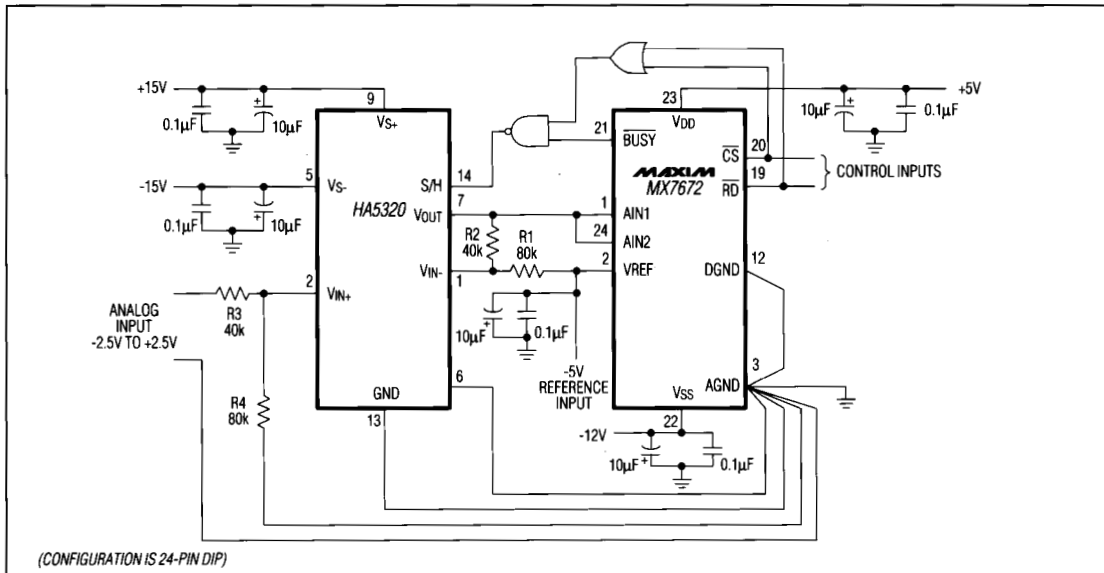

Figure 14. MX7672—HA5320 Sample-and-Hold Interface
**MX7672\_\_03** – Figure 14 is the MX7672\_\_03 to HA5320 interface. The maximum sampling rate is 210kHz with a 4MHz clock, which allows a 1.5 $\mu$ s acquisition time. The HA5320 can also be replaced by a HA5330 for higher throughput.